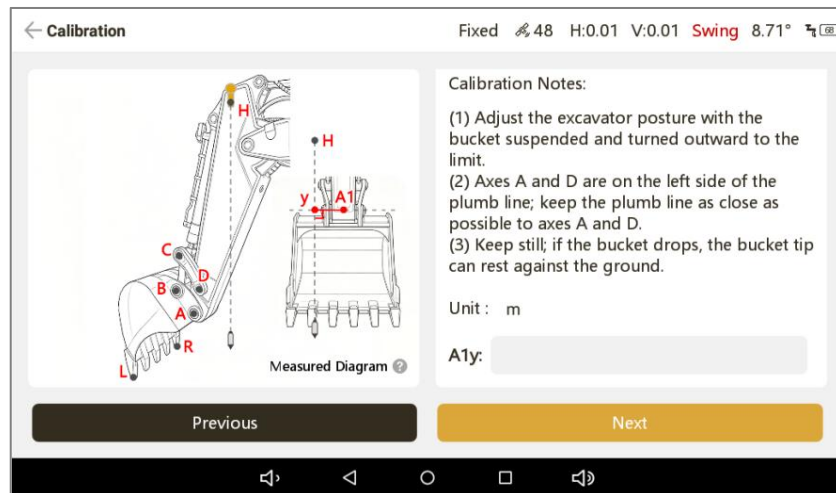
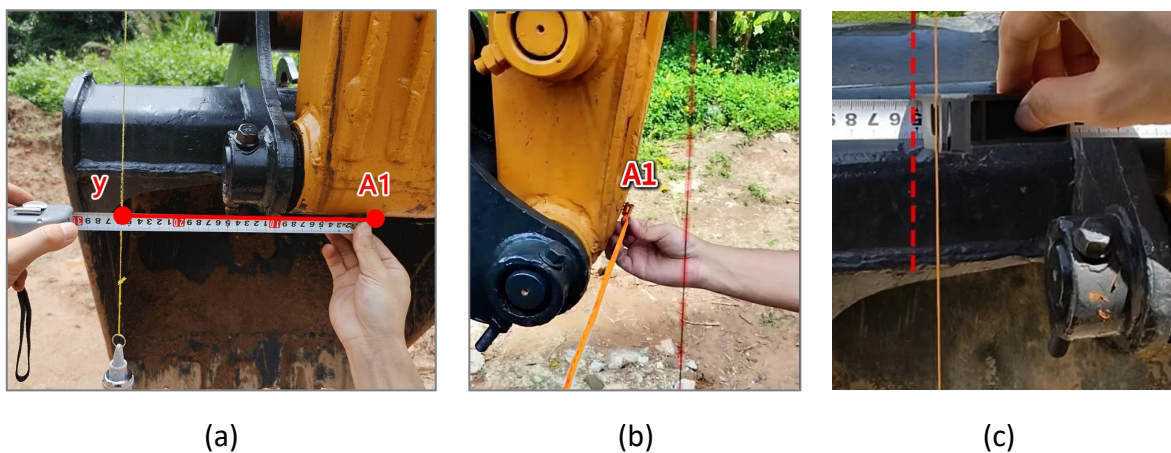

Figure 3-49
Figure 3-50
- (7) Measure the distance **A1y** from the midpoint of the arm **A**-pivot to the plumb line plane, then tap 'Next' at the bottom, as shown in Figure 3-49. You may first measure the width of the arm **A**-pivot to find its midpoint, then use the plumb line as a reference, place the tape measure horizontally, and read it perpendicularly. An auxiliary measuring tool can be used to help align with the plumb line, as shown in Figure 3-50.